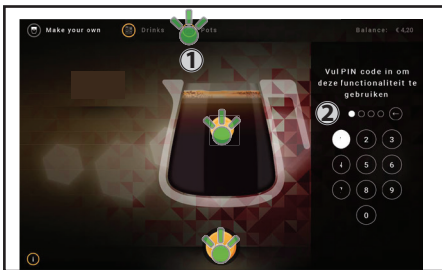

Fig. 4.9 - "Pots"
1. Tap on the upper right icon "Pots" **(1)** on the touch screen, when the dispenser is in delivery mode (fig. 4.9).
2. Type in the PIN **(2)**, if applicable (fig. 4.9).